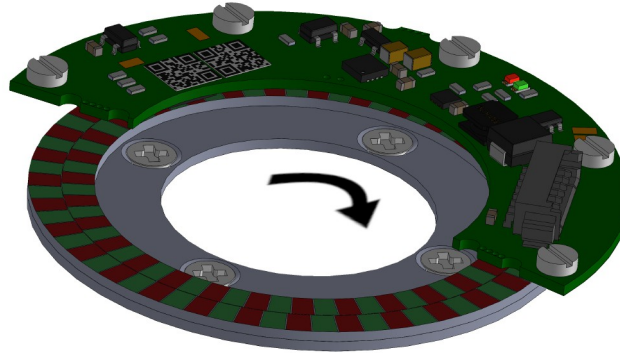

Figure 9 – Counting direction
The **standard counting direction** is to be intended with ring turning as indicated by the arrow in Figure 9. When the ring turns in the direction indicated by the arrow, the count is up. The counting direction cannot be changed.
- The position information increases when the ring rotates as indicated by the arrow in Figure 9.